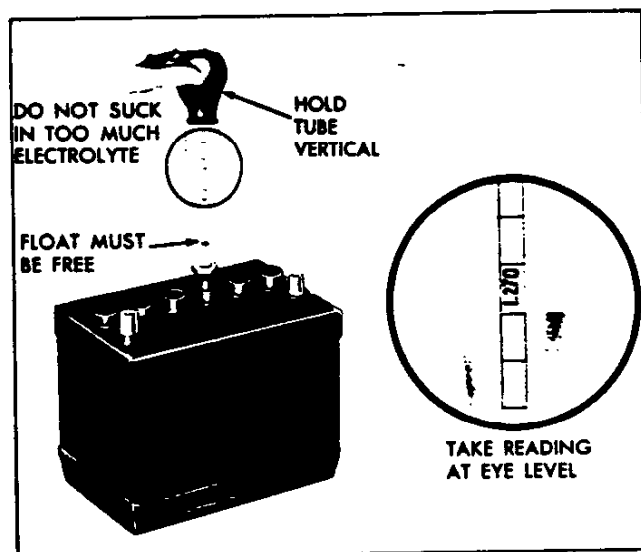

Fig. 3—Testing Specific Gravity of Battery
- Measure the specific gravity of the electrolyte in each cell (fig. 3). If it is below 1.230 (corrected to 88° F.), recharge with a slow rate charger, or if desired, further check battery.